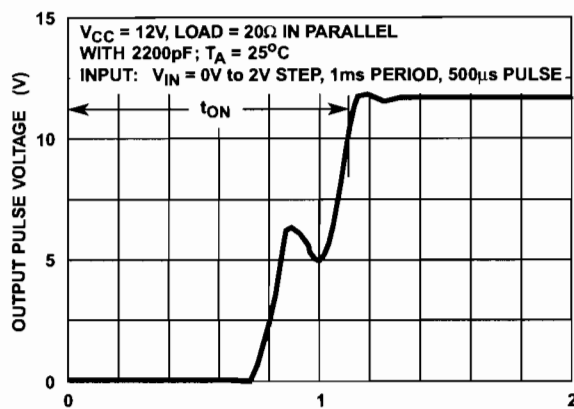

FIGURE 3A. OUTPUT TURN-ON TIME ( $\mu s$ )
5. Refer to Figures 3A and 3B for typical switching speeds with a 20 $\Omega$  Load.